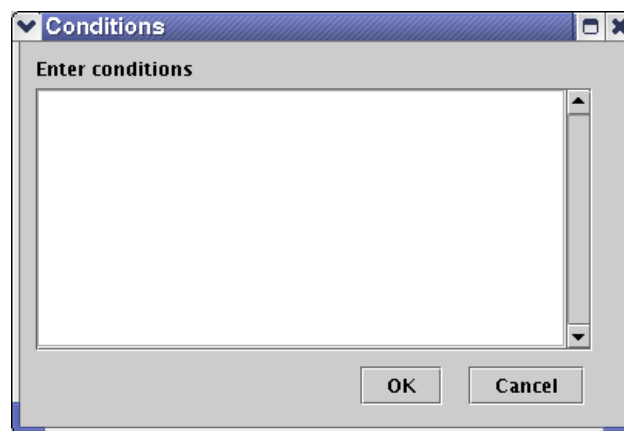

Figure 5-25. Conditions Window
5.4.1.7.3 Conditions Enter Button. The **Conditions Enter** button allows the operator to describe the conditions of a particular part. After the button is pressed, the Conditions window (Figure 5-25) will appear. The operator types a description of the conditions into the window. To save the data, the operator needs to select the **OK** button and the window will close. If the **Cancel** button is pressed while the window is open, the description in the window will be deleted, and the window will close.